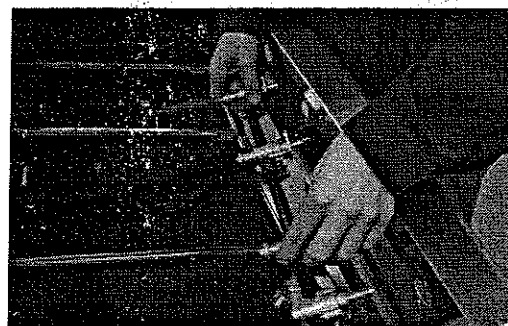

Fig 13
14. Hold the manifold, slightly move it to the right and lift the left end out. (See Fig. 13)